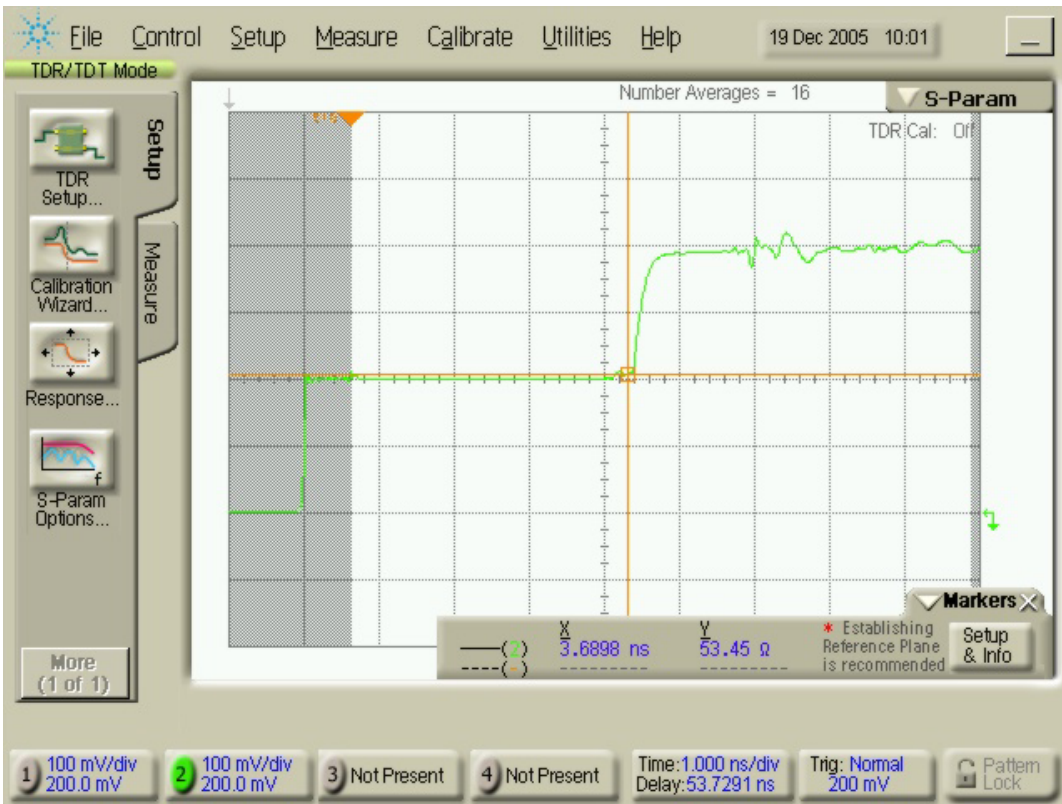

Fig 3 Bad Module Cable
5. A bad cable will have the open close to the marker, and the trace will likely move between a good and bad cable signature as the cable is moved. See fig 3, 4 bad cables.